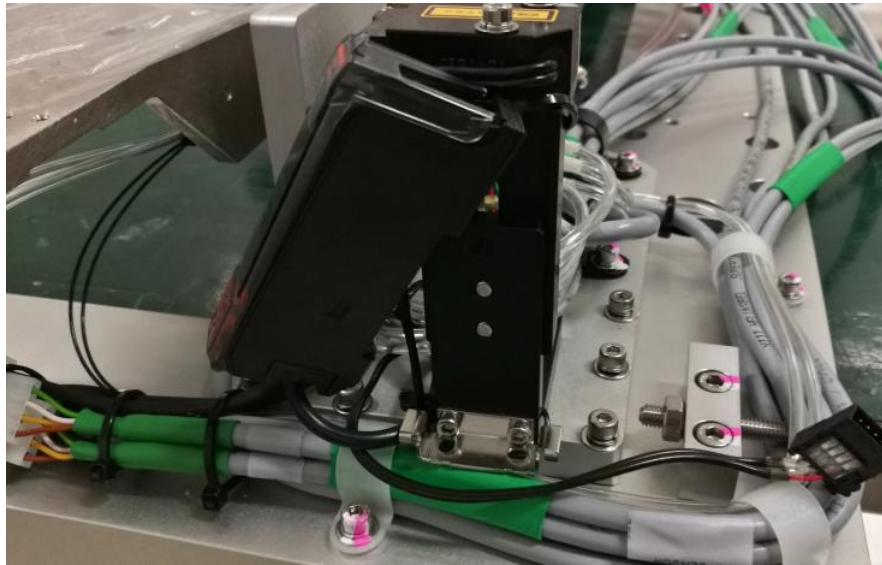

Figure 3 Sensor Amplifier Removal
5. Remove amplifier from bracket as below Figure 3